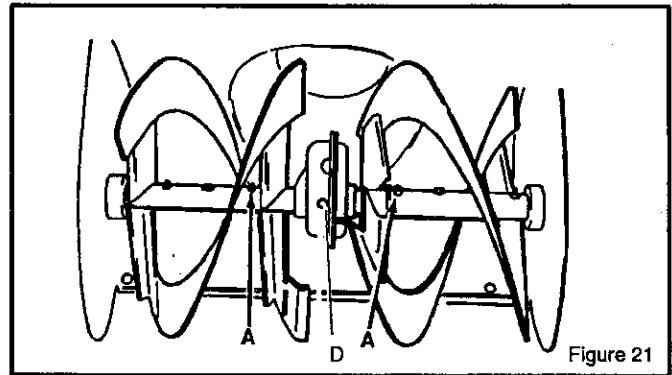
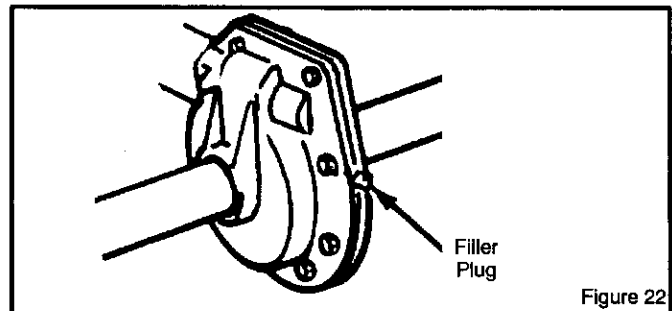

Figure 21
Figure 22
Remove filler plug D (Figure 21 and Figure 22), once a year. If grease is visible, do not add. If grease is not visible, use a piece of fine wire, like a dipstick to check if there is grease in the gear box. Mobilux EP1 and Shell Aldania EP1 are suitable equivalents.
1. **Auger Shaft** – Using a hand grease gun, lubricate the auger shaft zerk fittings (A) every ten (10) operating hours. Each time a shear bolt is replaced, the auger shaft **MUST** be greased (Figure 21). (See To Replace Auger Shear Bolt in the Repair/Adjustment section).